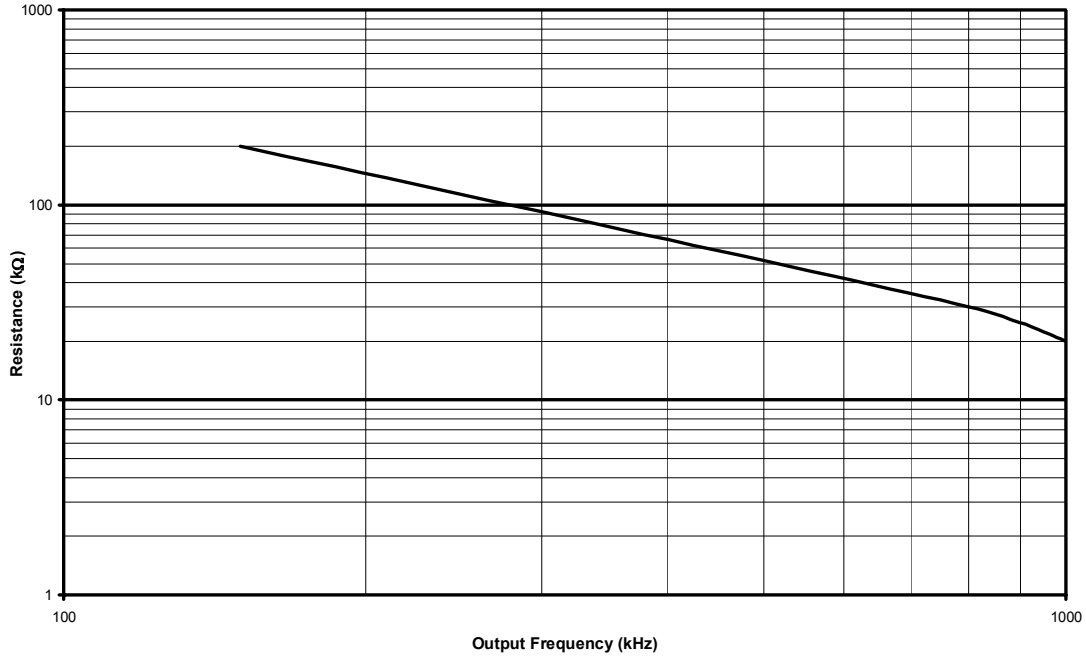

Figure 1 - R4 vs. Frequency (per Phase)
In this document, table 1 and figure 1 are provided to enable engineers to easily evaluate the iP2001 in a 2-phase configuration that is capable of providing up to 40A in a lab environment without airflow. Figures 3, 4, 5 and 6 and the complete bill of materials in table 2 are provided as a reference design to enable engineers to very quickly and easily design a 2-phase converter. In order to optimize this design to your specific requirements refer to the data sheet for the controller listed in the bill of materials. A variety of other controllers may also be used, but the design will require layout and control circuit modifications.
- The switching frequency per phase is set to 500kHz with the frequency set resistor R4. This creates an effective output frequency of 1MHz. The graph in figure 1 shows the relationship between R4 and the switching frequency per phase. This frequency may be adjusted by changing R4 according to this graph; however, extreme changes from the 500kHz set point may require redesigning the control loop and adjusting the values of input and output capacitors. Also, refer to the SOA graph in the iP2001 datasheet for maximum operating current at different frequencies.